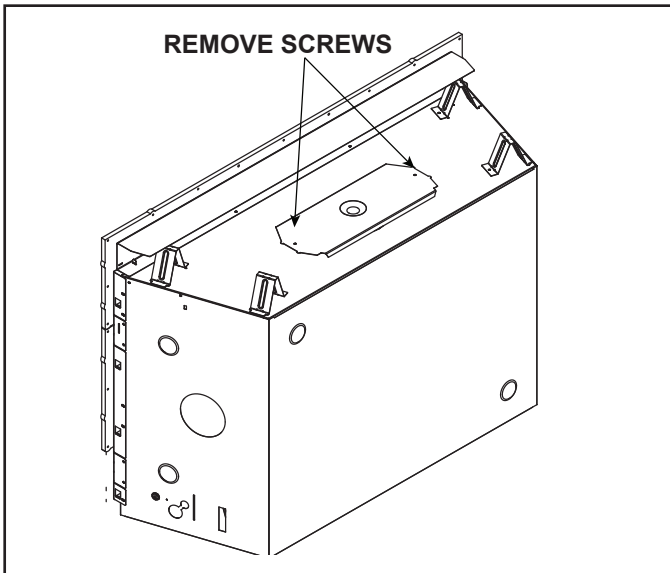

Figure 6.1 Shipping Position
1. Remove two screws and discard top heat shield. See Figure 6.1.